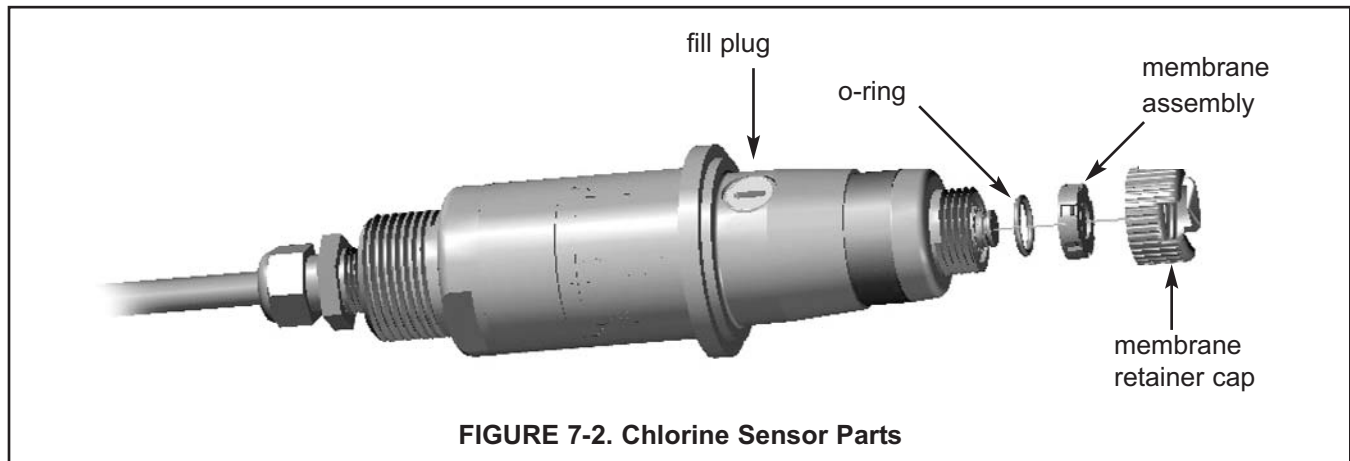

FIGURE 7-2. Chlorine Sensor Parts
1. Unscrew the membrane retainer and remove the membrane assembly and O-ring. See Figure 7-2.